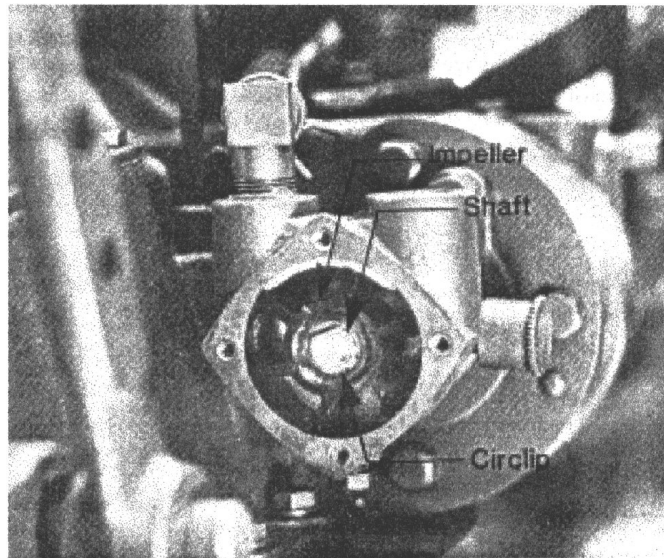

FIGURE 23 - WATER PUMP IMPELLER
4. Remove pin or circlip securing impeller to its shaft (see Figure 23).